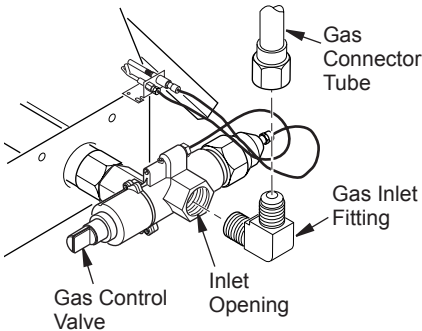

Figure 12 - Installing Inlet Fitting and Gas Connector Tube
3. Install the inlet fitting into the inlet opening of the gas control valve (see Figure 12). Use thread sealant on the male pipe threads.